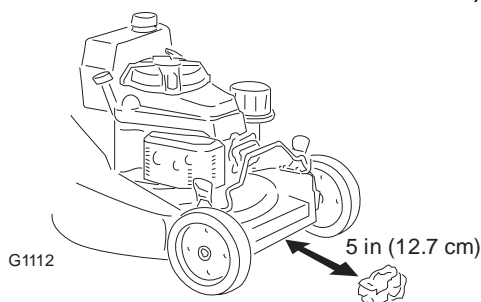

Figure 8
3. Set all four wheels in to the 2-1/2 in. (64 mm) cutting height (Fig 8).
6. Place the ball of newspaper five inches (12.7 cm) in front of the lawn mower (Fig. 8).